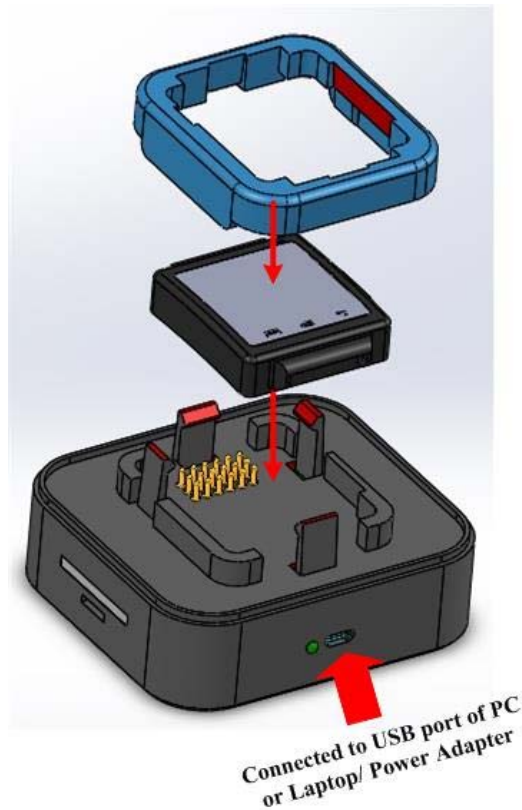

Figure 7: Steps for Charging Smart Watch
- Figure 7- shows the connection of Smart Watch to the Docking Station.